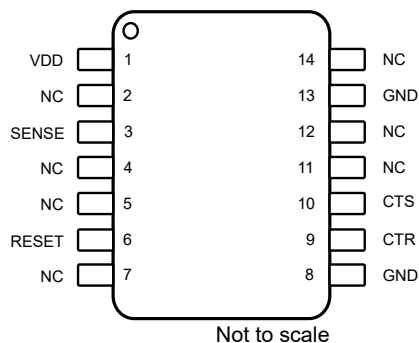

Figure 4-1. Pin Diagram DYY Package 14-Pin SOT-23
Figure 4-1 shows the TPS3760 pin diagram. For a detailed description of the device pins please refer to TPS3760 in the *Pin Configuration and Functions* section of the data sheet.
- RESET are pictured as active low, some configurations ($\overline{\text{RESET}}$) will be active low. RESET in Figure 4-1 is shown as open-drain, some configurations will be push-pull. Refer to TPS3760 Pin Configuration and Functions section of the data sheet.